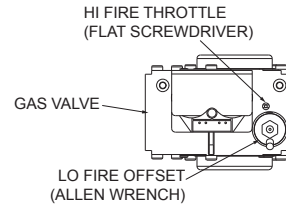

Figure 52. Setting Hi Fire Throttle / LO Fire Offset
Valve adjustment throttle locations are indicated on Figure 52.
Adjust Hi Fire Throttle to get within the combustion range required. See Figure 52.
3. Using an Allen wrench turn the Offset slightly clockwise to increase CO₂ values. See Figure 52.